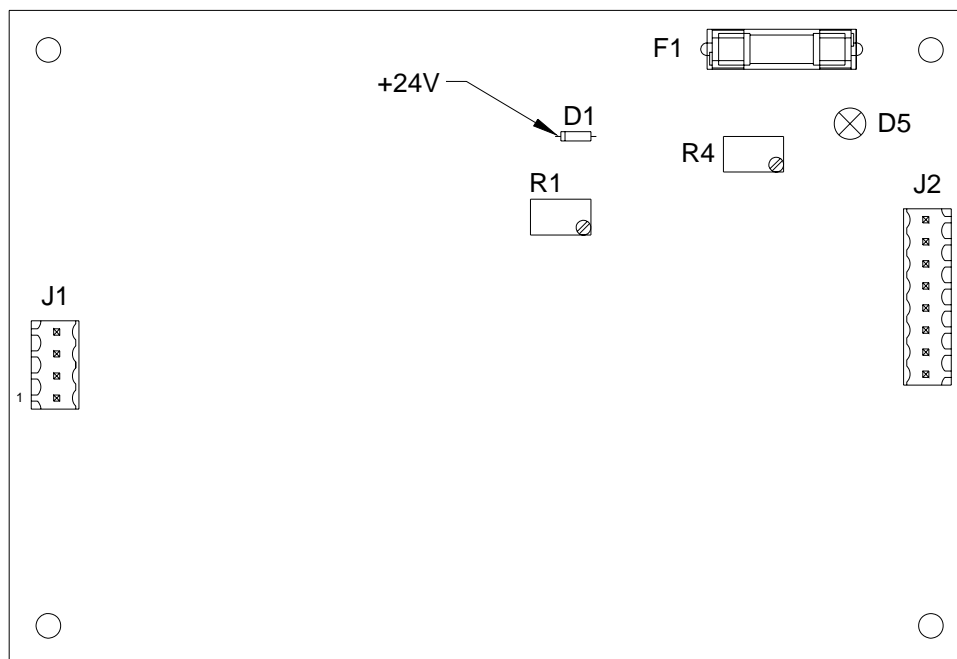

Figure 6-20
3. See Figure 6-20 and measure the voltages according to Table 6-8. Adjust only if the voltages are outside the limits of minimum and maximum.